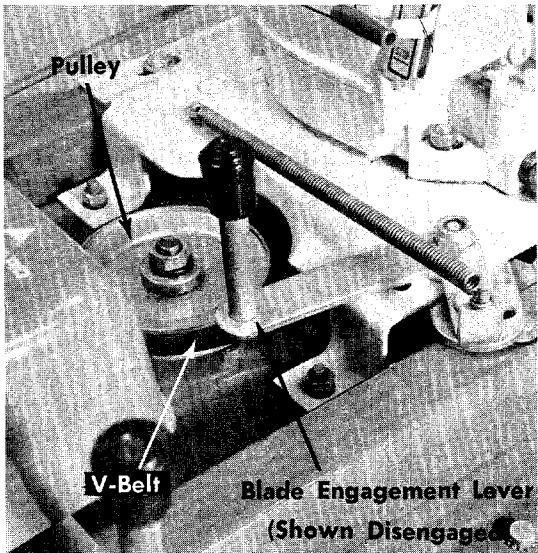
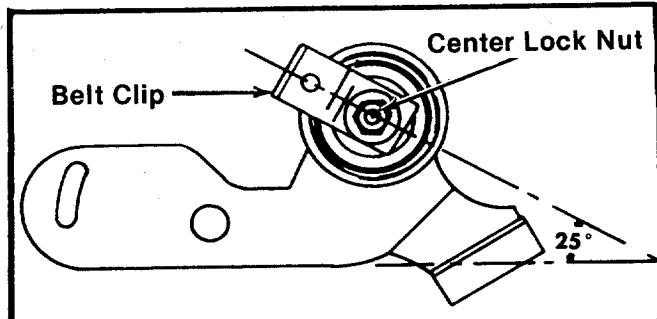

FIGURE 25. BLADE ENGAGEMENT LEVER
FIGURE 26. BELT IDLER
Step 5. Remove the belt from the transmission idler. See figure 25.
Step 5. Place the blade engagement lever in the engaged position (see figure 25) and loosen the center lock nut on the blade idler. See figure 26.
Use a $\frac{1}{2}$ " open end wrench. When installing the new belt be sure the belt clip is in the same position as shown in figure 26.